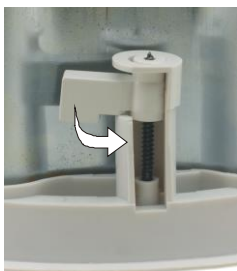

Figure 6: Tighten the Mounting Tabs
8. Tighten the mounting tabs by turning the screw counter clockwise (see Figure 6).